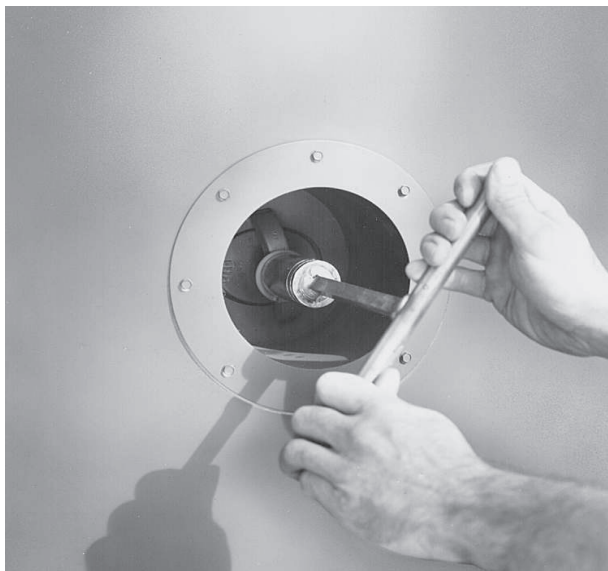

FIGURE 4 - REMOVE ASSEMBLY WITH TEE HANDLE WRENCH
- » Remove the hand hole assembly using a 1-1/4" tee handle wrench or 1-1/4" 1/2" drive socket wrench. See Figure 4. Remove the old gasket and thoroughly clean the surface on the boiler and the plate.